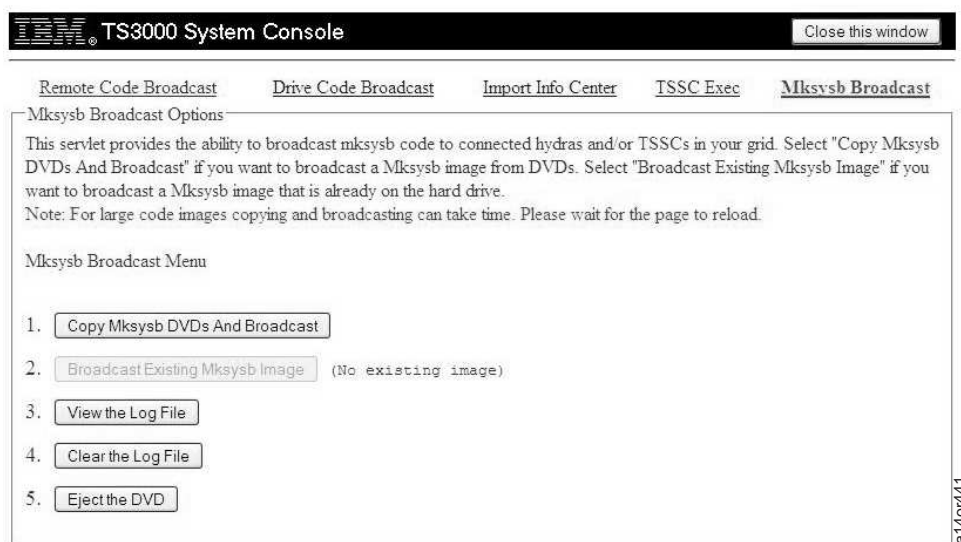

Figure 230. Mksysb Broadcast Screen
- Select **System Tools > Mksysb Broadcast**. See Figure 230 on page 197. Make the appropriate selection(s) as follows: